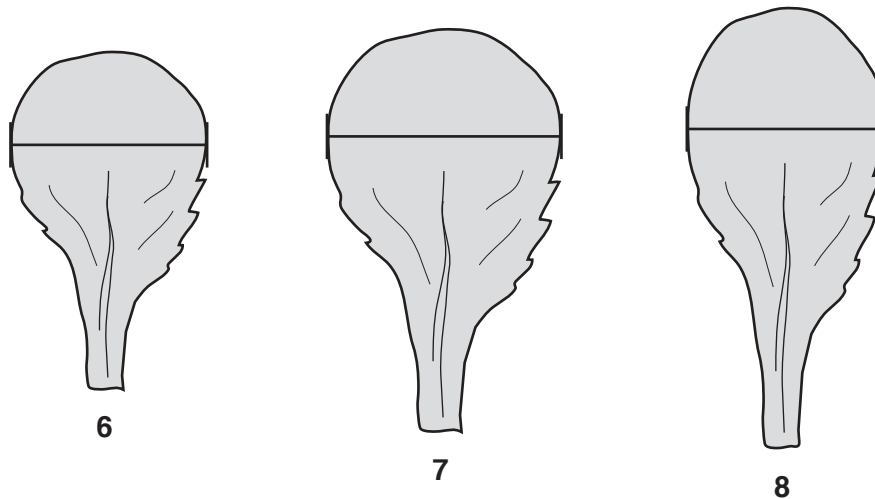

Fig. 2.1
The results for three leaves grown in high light intensity are shown in Fig. 2.1. The horizontal line on each leaf indicates its maximum width.
- (a) (i) Measure the maximum widths of leaves 6, 7 and 8 in Fig. 2.1 and record these values in Table 2.1.